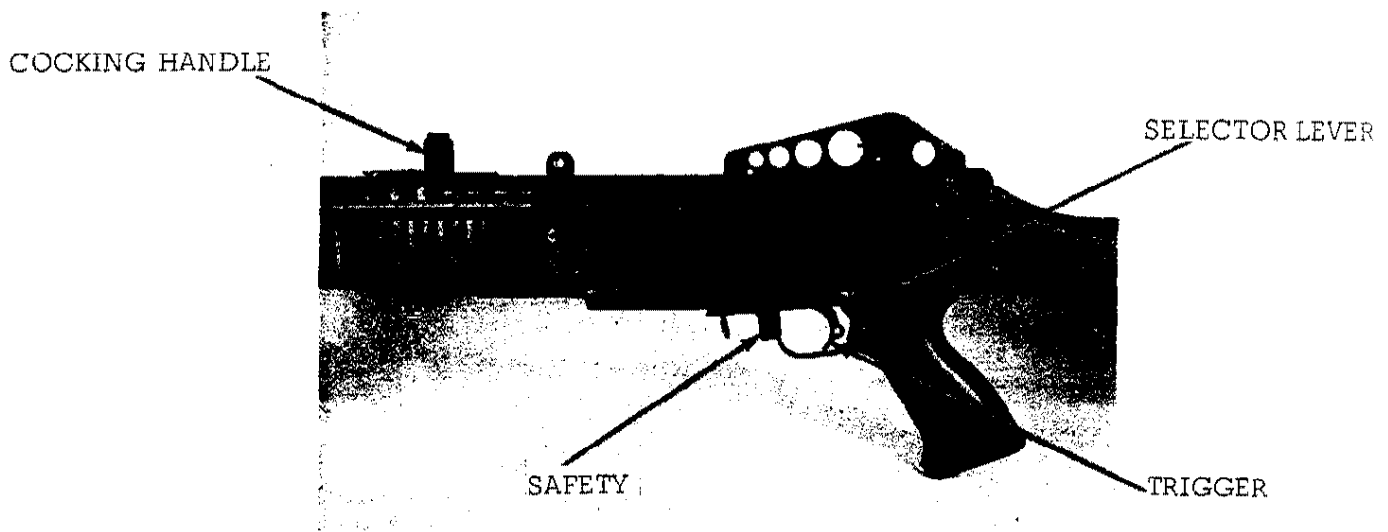

FIGURE 5. COCKING HANDLE, SELECTOR LEVER AND TRIGGER
c. Cocking Handle. The cocking handle (figure 5) is located on the top of the receiver. This control allows for manual cocking of the weapon when required.
d. Safety. The safety is located just forward of the trigger (figure 5). When pushed all the way forward through the slot in the trigger guard, the safety is in the "OFF" or FIRE" position. When pulled all the way to the rear, towards the trigger, it is in the "SAFE" position. This safety can be moved off safe without removing the trigger finger from the trigger guard by pushing forward with the trigger finger.
e. Selector Lever. The selector lever (Figure 5) is located on the left side of the trigger housing group, above and to the rear of the trigger. It is movable to two positions, "SEMI" and "AUTO".
f. Trigger. The trigger (Figure 5) is located below the receiver directly behind the feedway. Its function is to control the firing of the weapon with the selector lever in the SEMI or AUTO positions.